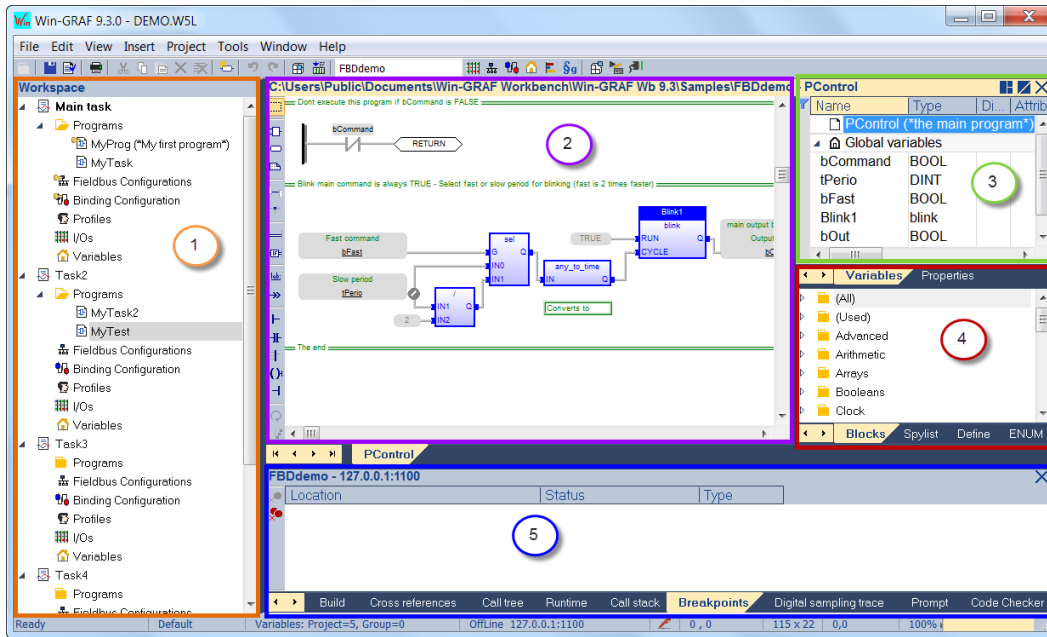

Figure 1: Win-GRAF workbench UI
The main user interface (UI) of the Win-GRAF workbench is shown below (Figure 1).